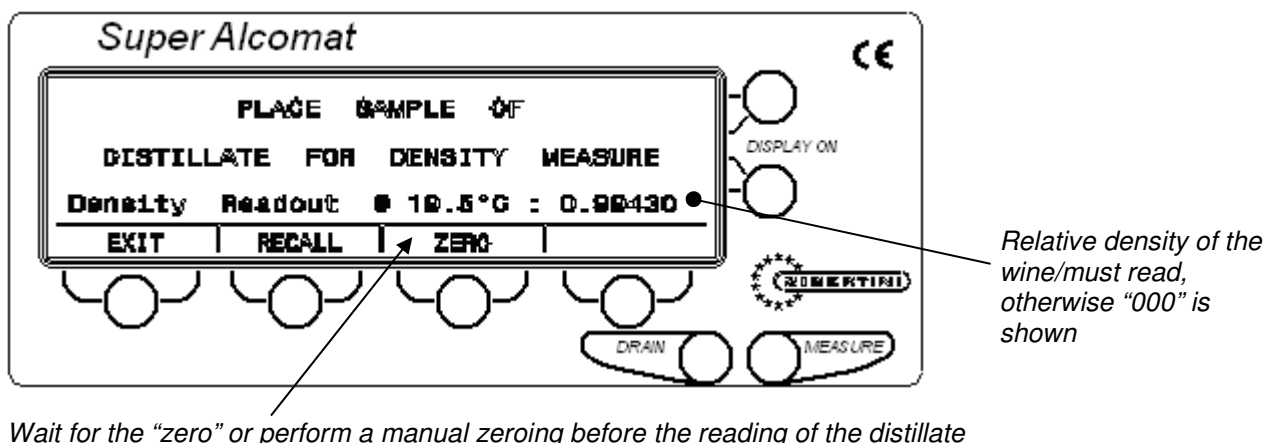

Fig. 13
- e- to pass directly to the determination of the dry extract, press [CALCULAT]. The instrument awaits to measure the relative density of the distillate obtained by the wine/must under consideration (valid samples have a relative density $d_{20/20}$ between 0.79000 and 0.99995), with the blinking message (Fig. 13):